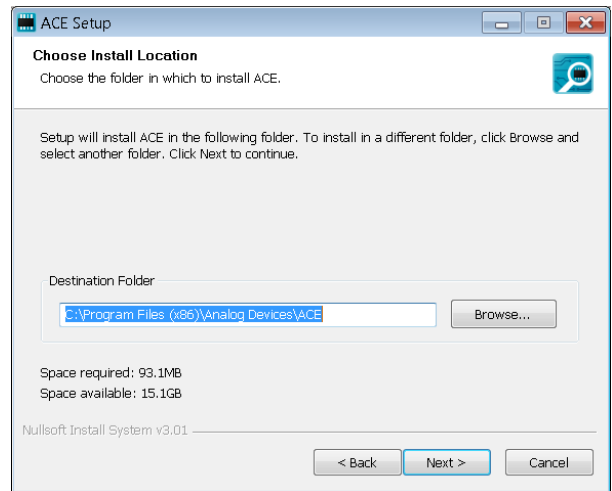

Figure 5. Choose Installation Location
6. Click Browse... to choose the installation location and then click Next > (see Figure 5).